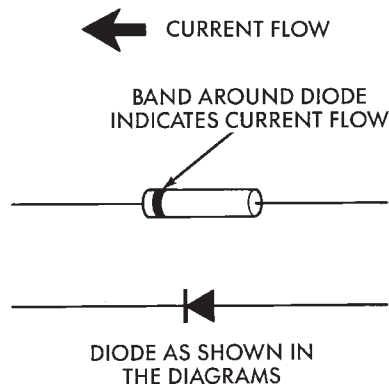

Fig. 24 Diode Identification
(1) Disconnect the battery.
(2) Locate the diode in the harness, and remove the protective covering.
(3) Remove the diode from the harness, pay attention to the current flow direction (Fig. 24).